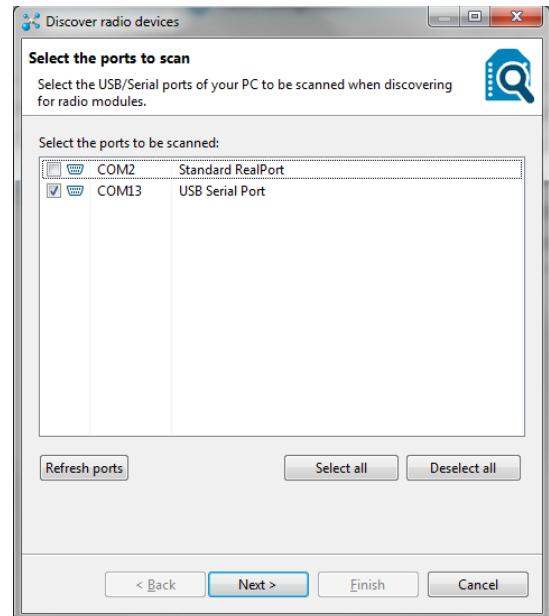

Figure 39: Discovery radio devices window.
- d. Click on the “Discover devices” tool icon on the top left portion of the XCTU window. This tool allows the software to automatically locate ZigBee transceivers attached to the PC. At this point, the “Discover radio devices” window will open (Figure 39). Select the checkbox next to the COM port that the EchoCal Base Station is attached to. Click on the “Next” button at the bottom of the window to continue.